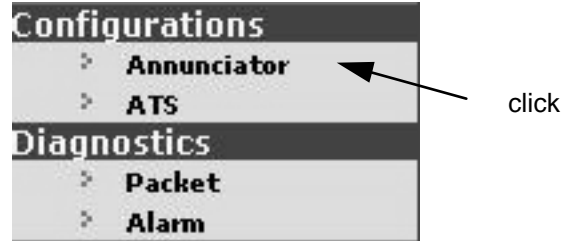

Figure 4: Configurations > Annunciator
5. On the left pane, under *Configurations*, click *Annunciator* to configure the ATS Remote Annunciator. See Figure 4.